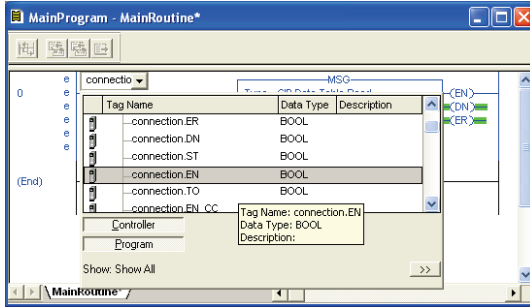

Figure 74: Configure XIO Element
- a) Double-click on the XIO element located to the left of the MSG block. In the drop-down box, double-click on the “connection.EN” field. Refer to Figure 74. This configuration causes the MSG instruction to automatically retrigger itself when it completes. While this is acceptable for the purposes of this example, it can produce high network utilization. In actual practice, it may be desirable to incorporate additional logic elements to allow triggering the MSG instruction at a specific rate or under specific conditions.